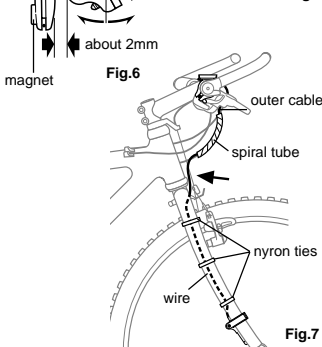
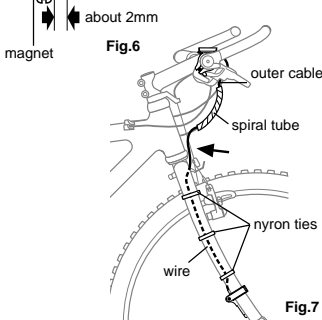

Fig.5
Fig.6
3. Align the magnet's center and the sensor's marking line(fig. 5), and make sure of 2mm clearance between the magnet and sensor (fig. 6). Then tighten the screw securely. Cut the excess of the band-B with a nipper or the like.